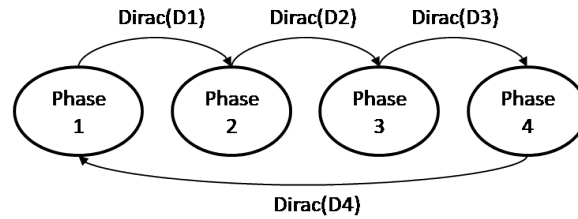

Figure 5: State machine modeling the changes of phases.
Figure 5 represents the changes of phases of the satellite communication system. Durations of each phase are given in Table 1. Now we also assume that in the ground station subsystem all the components may fail in operation and be repaired with a repair rate given in Table 1. The objective of this exercise is to integrate the changes of phases in the previous model and to assess the reliability of the system by stochastic simulation. To do that:
4. Modify the block **PhaseController** to represent the behavior of the phase controller given Figure 5.